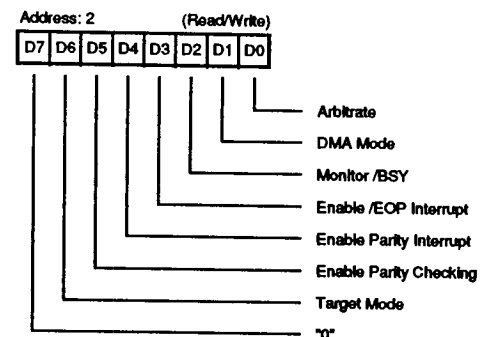

Figure 10. Mode Register
**Bit 7. Assert/RST.** Whenever a one is written to bit 7 of the Initiator Command Register, the /RST signal is asserted on the SCSI Bus. The /RST signal will remain asserted until this bit is reset or until an external /RESET occurs. After this bit is set (1), IRQ goes active and all internal logic and control registers are reset (except for the interrupt latch and the Assert/RST bit). Writing a zero to bit 7 of the Initiator Command Register deasserts the /RST signal. The status of this bit is monitored by reading the Initiator Command Register.
**Mode Register. Address 2 (Read/Write).** The Mode Register controls the operation of the chip. This register determines whether the SCSI operates as an Initiator or a Target, whether DMA transfers are being used, whether parity is checked, and whether interrupts are generated on various external conditions. This register is read to check the value of these internal control bits (Figure 10).